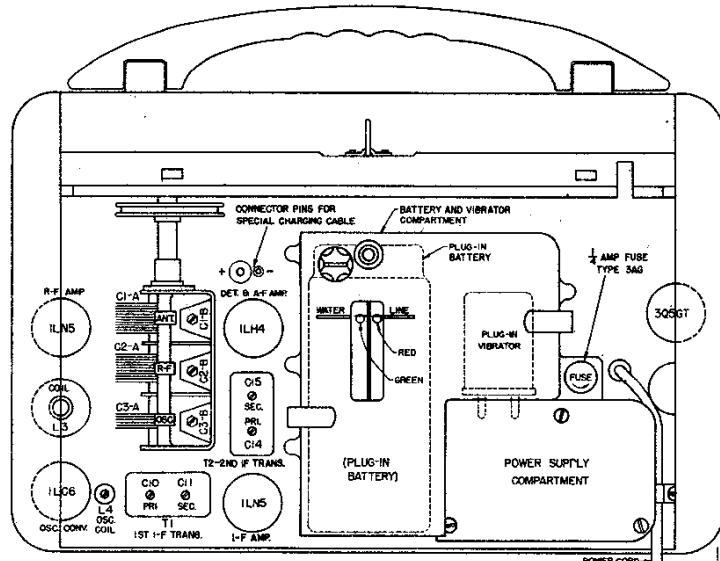

Fig. 3. Tube and Trimmer Location
1. *General.*—The alignment procedure is given in table form for convenience. Reference is made to Fig. 3 for the trimmer locations. The low side of the signal generator should be connected to the chassis of the receiver for i-f alignment; the high side should be connected as indicated in the Alignment Chart. A meter or some other suitable indicating device must be connected to the output of the receiver. Two methods for connecting an output meter are given in later paragraphs.
A charging cable is available, which provides a convenient means of charging the radio battery from an automobile or 6-volt storage battery. The cable plug is inserted over the two pins provided, see Fig. 3, and the plug and socket on the other end of the cable are connected to a 6-volt supply. Complete installation instructions are provided with each cable.
2. Remove the three flat-head screws on the power supply compartment cover (see Fig. 3).